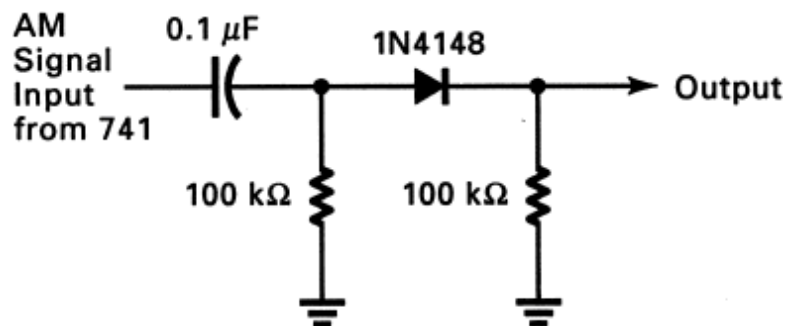

Fig. 4-11 Diode detector without filter capacitor.
2. Next, construct the diode detector circuit shown in Fig. 4-11. Note that a filter capacitor is not connected at this time.